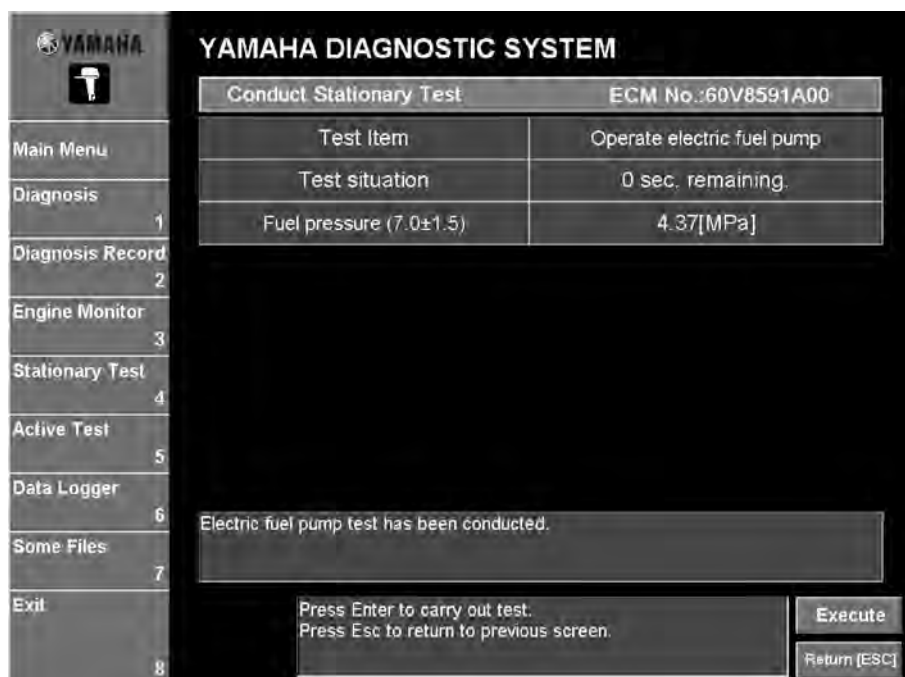

Fig. 78
4. To perform the test again click the **Execute** button or press the Enter key on your keyboard. To perform a different test, click the **Return [ESC]** button or press the Esc key on your keyboard to return to the window where a different test can be selected. (Fig. 78)